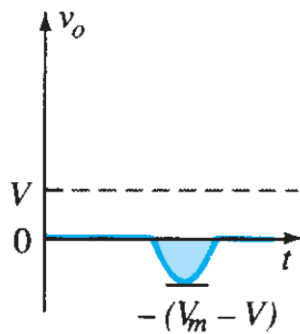

Figure 9
Step 3: add the bias voltage to the input waveform and remove the positive part of the signal. The output signal is shown in Figure 9.